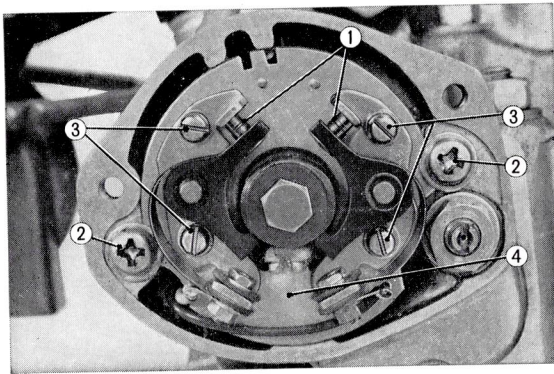
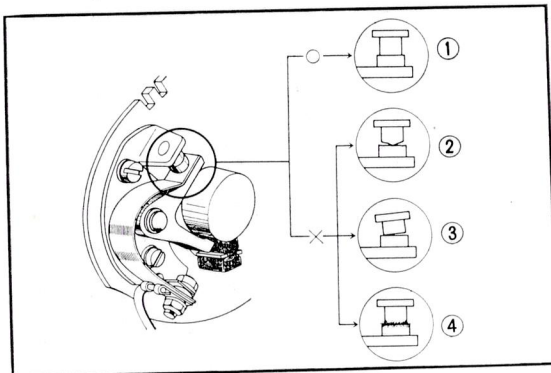
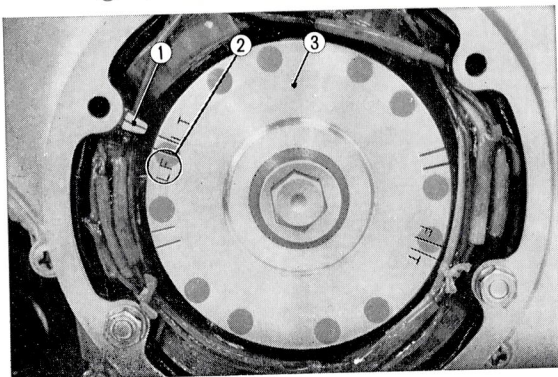

Fig. 6.7 Point clearance adjustment
Fig. 6.8 Point contacting surface center portion contacting condition
Fig. 6.9 Mark "LF"
d. Adjust the breaker gap opening by loosening the breaker locking screw (b) and make the adjustment with the screw driver and a thickness gauge. The standard gap clearance is 0.3 to 0.4 mm (0.012 to 0.016 in). Both the right and left sides should be adjusted to the same value. (Fig. 6.7)
- (1) When the generator cover is removed, a little oil may appear.
- (2) The point clearance should be adjusted for both points.
- (3) When the breaker arm locking screw is tightened, the point clearance may vary; thus, the clearance should be rechecked after tightening the screw.
- (4) When the point contacting surface is rough or burned, the point should be removed and corrected with an oilstone. Following the correction check the contacting condition so that the center portion contacts. (Fig. 6.8)
- (5) Upon completion of the point polishing and correction, clean off oil with trichloethylene.
- f. Following completion of the point clearance adjustment, the ignition timing is adjusted. For the left cylinder ignition timing, it is ideal that the contact point opens simultaneously when mark "LF" on the generator rotor passes the stator index mark. (Fig. 6.9)